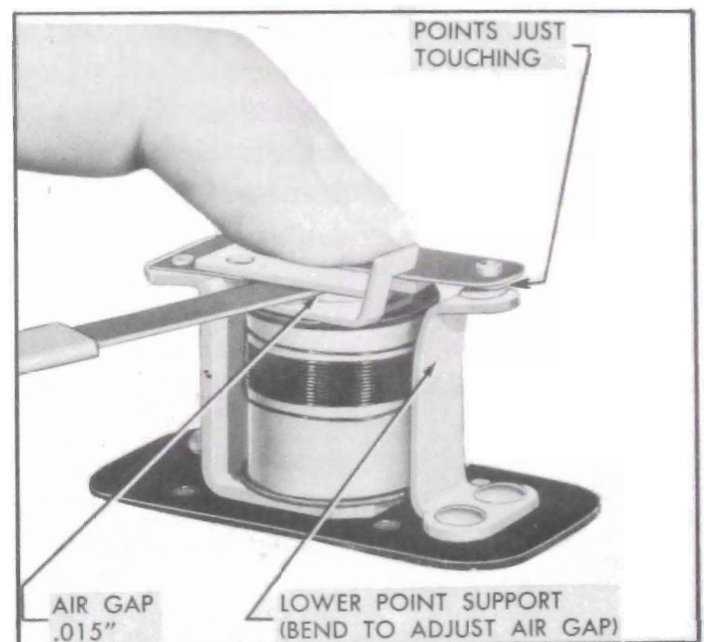

Figure 10-58—Relay Air Gap Adjustment
2. Push relay armature down until contact points just touch, then check air gap between armature and end of core, using .015" feeler gauge. Air gap should be not less than .015". Adjust gap to .015, if necessary, by bending the lower point support. See figure 10-58.